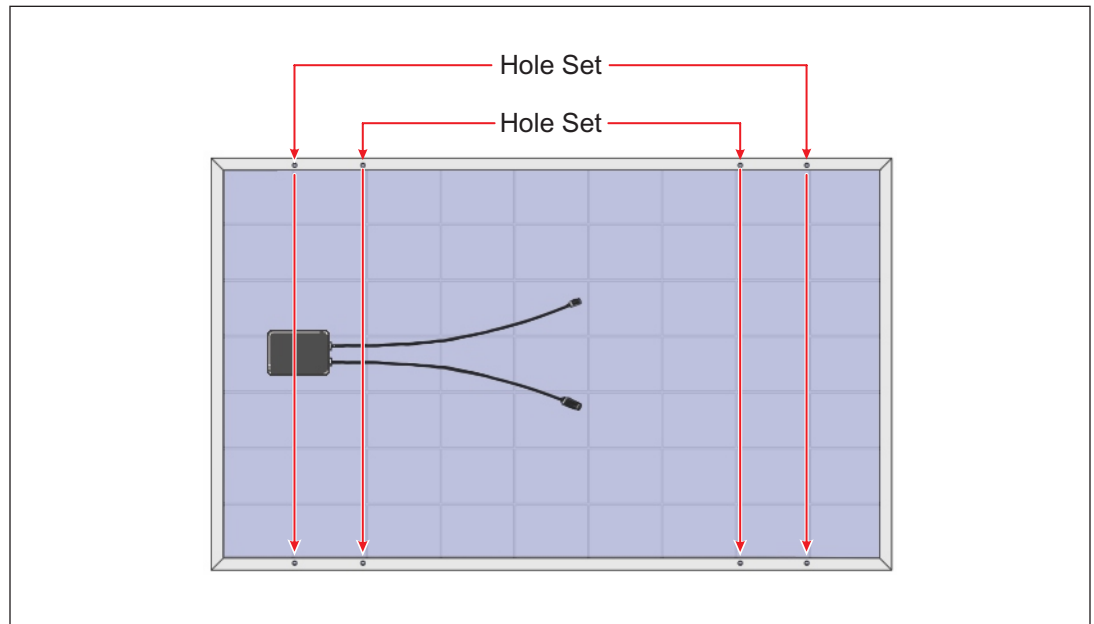

Figure 1-1: Bottom View of a Typical PV Module in Landscape Orientation Showing an Example of Mounting Hole Sets
- PV Modules will be mounted in landscape orientation as shown in figure 1-1.